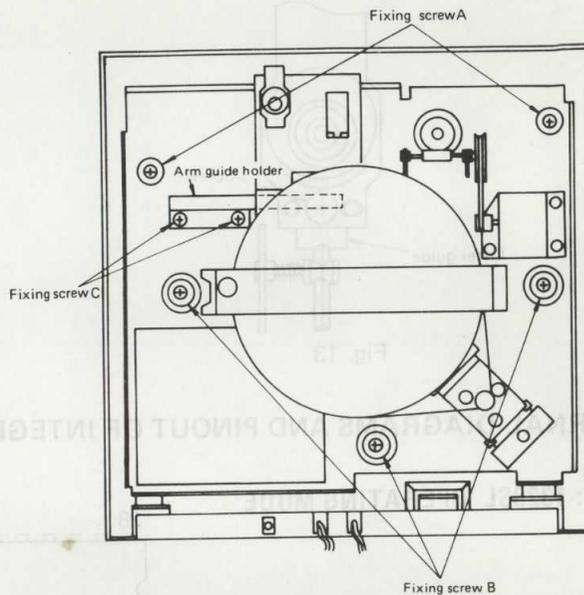

Fig. 10
4) Remove five fixing screws (A) and (B) of player unit shown in Fig. 10. The player unit can then be removed from the cabinet body.
3) Remove dial thread from the pulley and remove fixing screws (C) in Fig. 10.